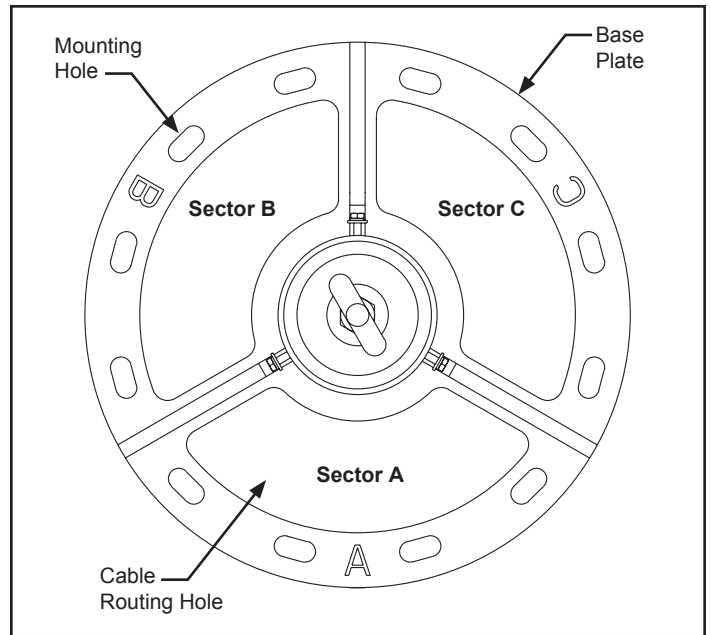

Figure 2. Sector Locations on Base Plate—Top View.
1. The base plate on the stand is divided into three 120° sectors and labeled as “A”, “B”, and “C” (Figure 2). Each of these three sectors have four mounting holes (total of twelve mounting holes for entire base plate).
3. The base plate has three large openings—one for each sector. These openings can be used to route RF cables up through the base plate (Figure 2).